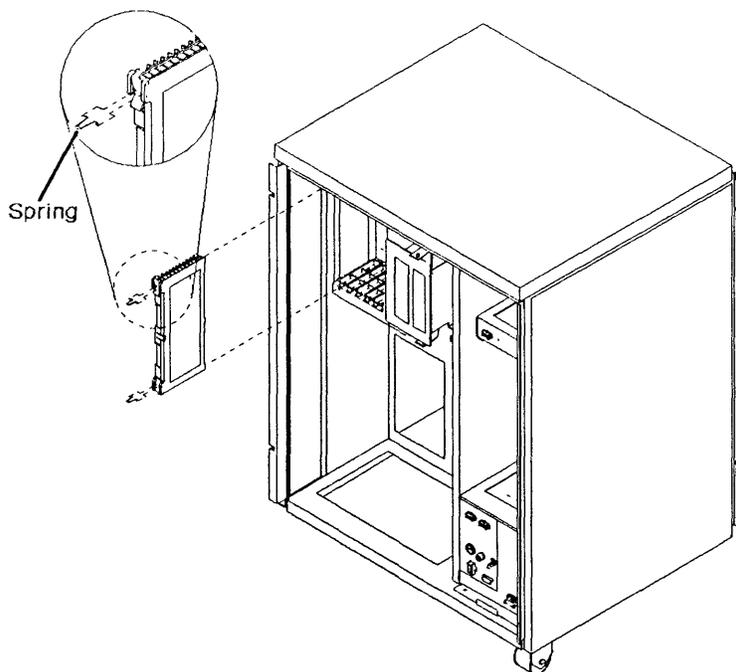

Figure 4-41. Shipping Springs.
10. If the card to be exchanged is on the MOSS board, remove the "shipping springs" that secure the extractor levers by squeezing them together. Refer to Figure 4-41 on page 4-33.